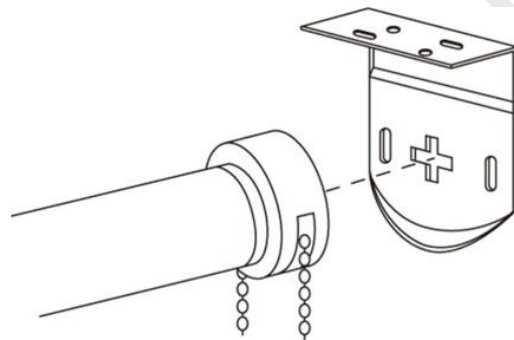

Figure 2
- ii) Carefully align the chain control mechanism with the control bracket (part B) (Figure 2) (this is the one with the cross). Push the blind into the control bracket, ensuring the chain is hanging directly down. Hook into place with a gentle downward motion.